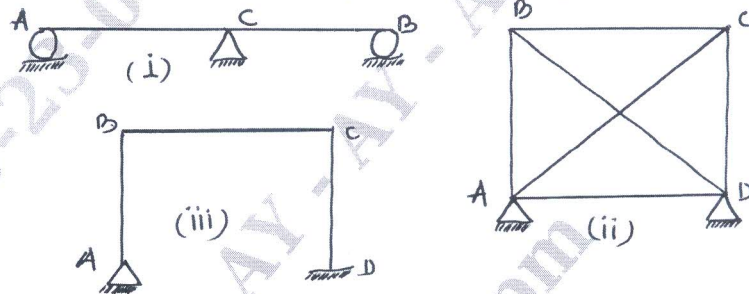

Fig.Q1(b)
b. Find the static and kinematic, indeterminacy of the following structures shown in Fig.Q1(b).